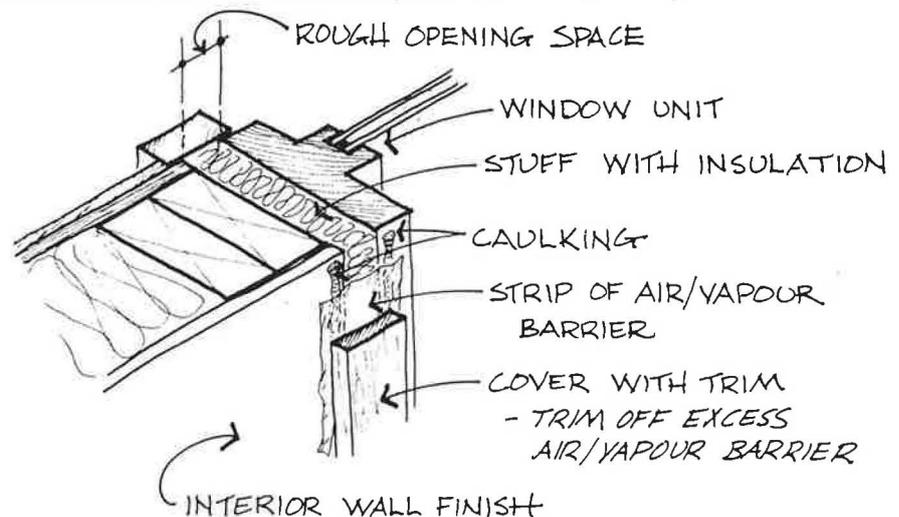

FIGURE 16
- Removing the trim and sealing the space with a strip of polyethylene, sealed with an acoustical caulk (as shown in Figure 16).